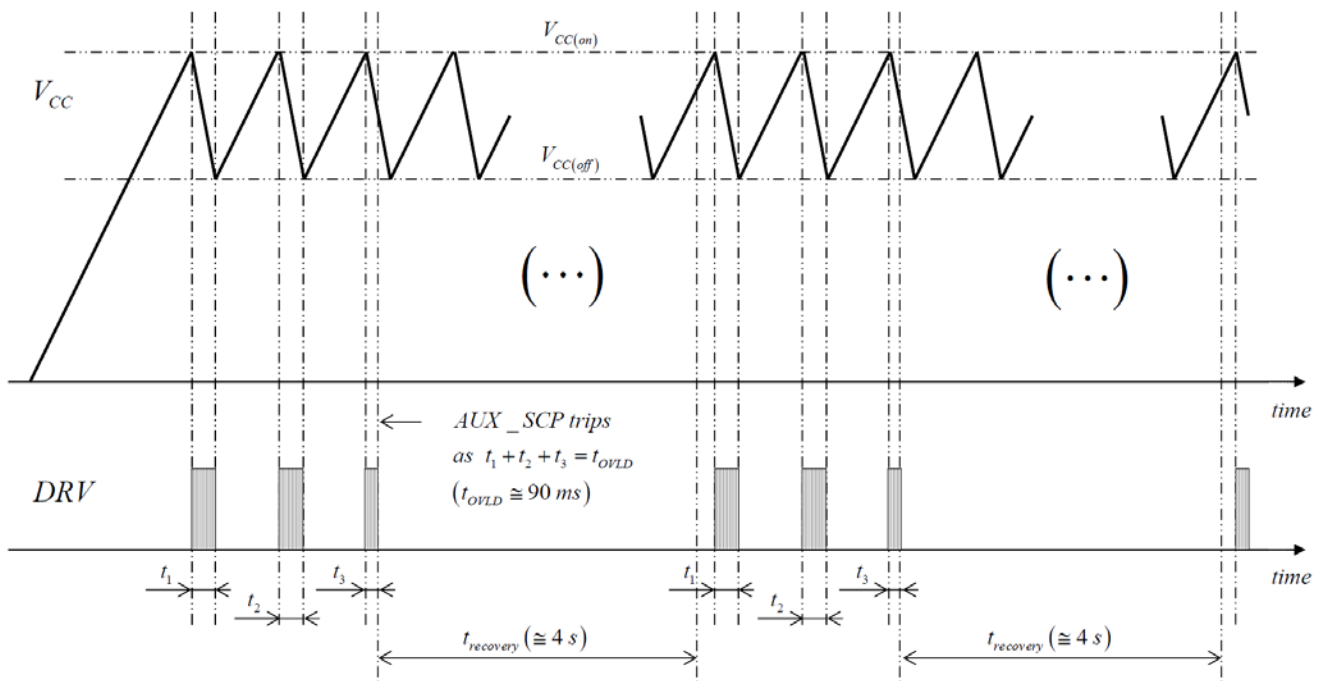

Figure 5. Start-up Sequence in a Load Short-circuit Situation
- If the load is shorted, the circuit will operate in hiccup mode with  $V_{CC}$  oscillating between  $V_{CC(off)}$  and  $V_{CC(on)}$  until the Auxiliary Short Circuit Protection, AUX\_SCP, forces the 4 s auto-recovery delay to reduce the operation duty-ratio (AUX\_SCP trips if the ZCD pin voltage does not exceed 1 V within a 90 ms active period of time thus indicating a short to ground of the ZCD pin or an excessive load preventing the output voltage from rising). Figure 5 illustrates a start-up sequence with the output shorted to ground.